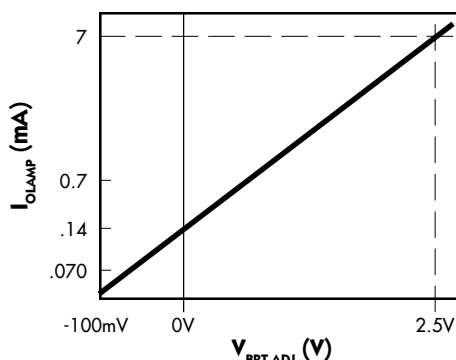

FIGURE 12 — Average Lamp Current vs. V_{BRITE} Voltage (per Lamp)
- 1) By varying the input voltage on the brightness pin as indicated in Figure 12. Caution must be exercised when applying negative voltage to the brightness control input. Applying more than -300mV to any inverter input will cause inverter malfunction (see Absolute Maximum Ratings).